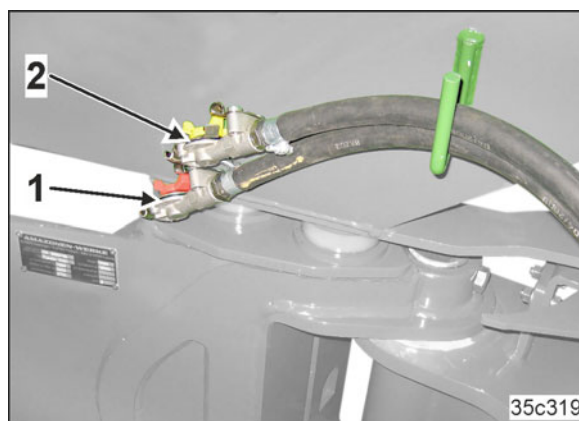

Fig. 31
- a supply line (Fig. 31/1) with coupling head (red).
- a brake line (Fig. 31/2) with coupling head (yellow).